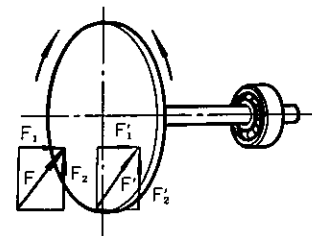

Fig. 2
- When timer spool (3) reaches the end of its stroke, the oil from the pump passes through restriction D1 and the hole in the timer spool, flows to the spring chamber of safety valve A and locks safety valve A. This completes the low pressure setting of safety valve A and the pressure at port MA rises again. When the low pressure setting in safety valve A is completed, port MA is set at high pressure by safety valve B. This high pressure rotates the motor. (Fig. 2)
(Fig. 2)